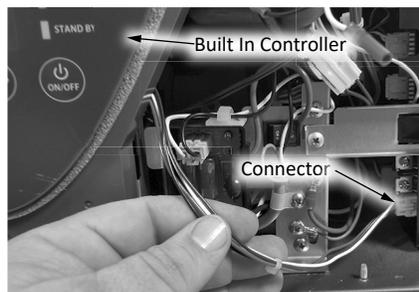

Figure 36: Built-in controller removal.
- 14 Attach the built-in controller to the front of the water heater. Reconnect the wire from the built-in controller to the computer board. See See Figure 36 on page 49.